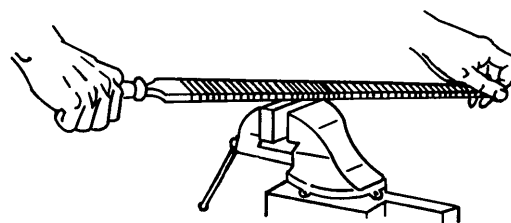

Figure 4-76. Crossfiling
(1) Using a new file. When a new file will be used, observe the following precautions:
(2) Crossfiling. Crossfiling means that the file is moved across the surface of the work in an approximate crosswise direction. This is shown in figure 4-76. To use this method, proceed as follows: